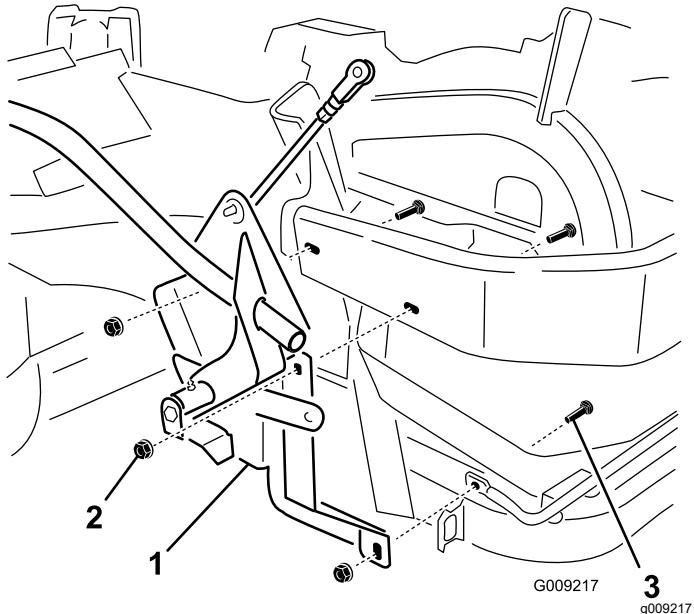

Figure 8
3. Install the handle and bracket assembly to the side of the machine with 3 carriage bolts (3/8 x 1-1/4 inches) and 3 flange nuts (large flange—3/8 inch) as shown in Figure 8.